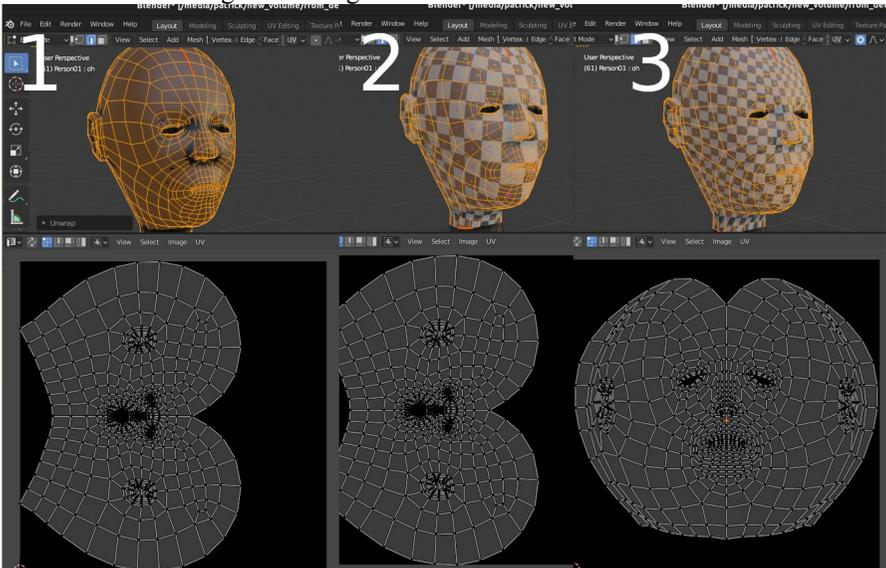

Figure 8-2 Unwrapped Head
Once the materials are set up ready you need to create the UV maps for the textures to use. The first job is to draw seams where you want the skin to be “peeled” back. The standard locations are round the neck, up the back of the head, down the back of the body, down the back of each arm and down the inside of each leg. The eyes can be sliced around their circumference. See Figure 8-2 for the seams and unwrapping on the head.
8. Change the bottom screen area to UV Editor then in the 3D Viewport select **UV** ▶ **Unwrap**. You should get something like Figure 8-2 stage 1
Grid and click **OK**. Your head should now look like Figure 8-2 stage 2.
10. Change back to the UV Editor. Select all the vertices by pressing A while the mouse is over the UV Editor, then rotate them by -90 as in the lower half of Figure 8-2 stage 3.
11. You need to keep the squares as regular as possible but make them smaller in the middle of the face. Toggle proportional editing on with linear falloff, then select a vertex on the tip of the nose in the UV Editor. Scale the vertices up, adjusting the radius of the proportional effect so no overlaps or serious distortion occurs. You can see my attempt in Figure 8-2 stage 3.